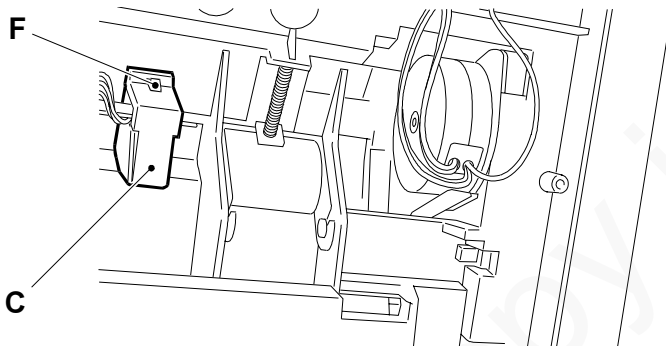

Fig. 7-51
- 2) Flip the fax machine over and release lid **C** of the sensor by flexing its latch **F** (Fig. 7-51):